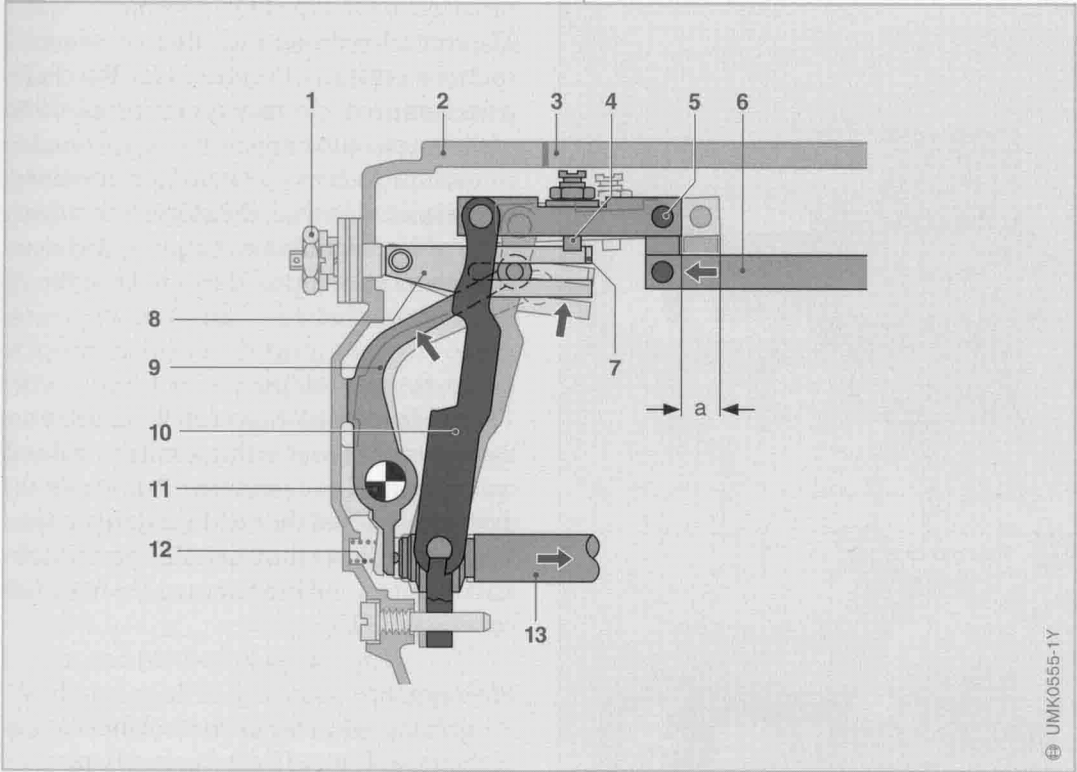

Fig. 8
When the engine is not running, the governor springs in the flyweights act via the sliding bolt (Figure 8, Item 13) to overcome the rocker spring (12). The rocker (9) pushes the stop strap (8) with the full-load stop (7) downwards (position shown in gray). If the accelerator is fully depressed when the engine is started, the control rack (6) can be moved to the start-quantity position.